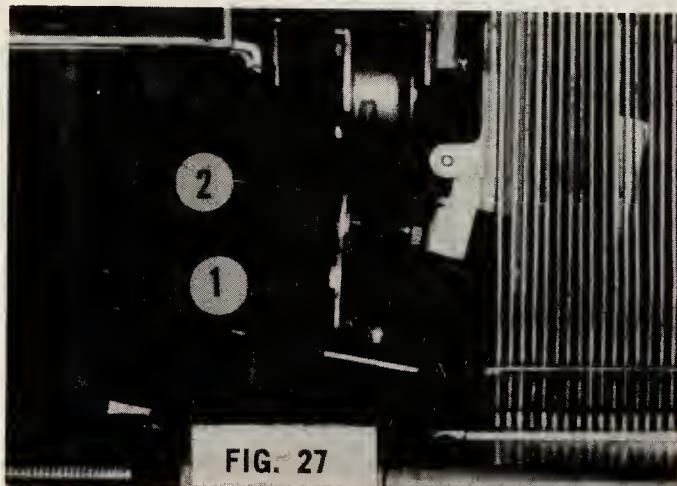
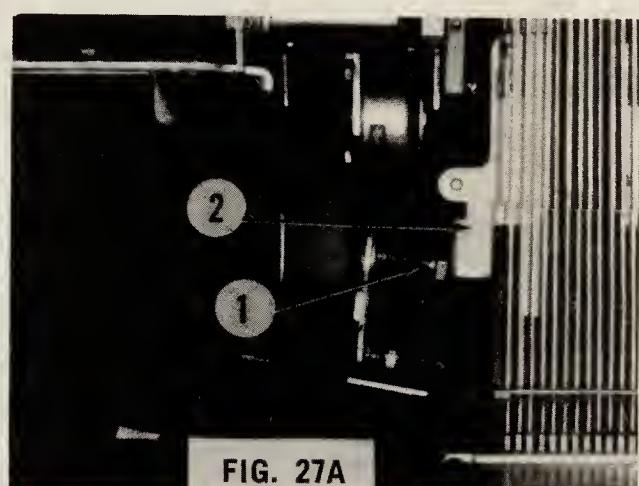

FIG. 27
FIG. 27A
(K) Double "e" Operating Lever (Figs. 27 and 27A)
Fig. 27 shows screw (1) in the delivery lever just contacting the operating lever (2) as the delivery lever returns. Figure 27A shows the position of the operating lever (2) after the screw (1) has moved it to the right to operate the double "e" shifting mechanism.